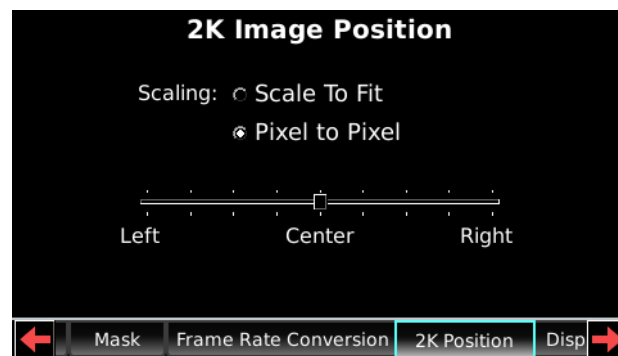

Figure 2-39 System/2K Image Position Screen
- **Fullscreen** scales the source by the required scale factor to fill at least one dimension of the $1,920 \times 1,080$ raster. For example, the system scales up a $1,280 \times 720$ source by 1.5. For 2K sources that are not cropped by the 2K image position setting (see Figure 2-39), the system scales down to $1,920 \times 1,080$. All other formats scale up.
If the system detects a 2K input source, the **2K Image Position** screen appears, as shown in Figure 2-39. This screen is inaccessible (grayed out) for HDMI and DisplayPort inputs. In this screen, you can change the current settings.